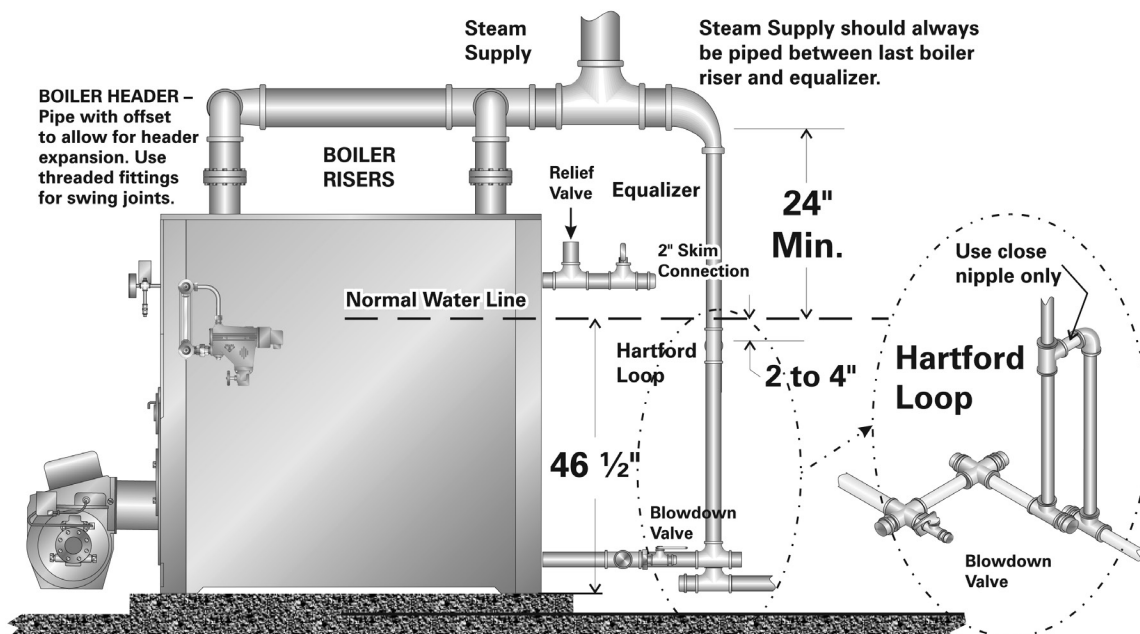

Figure 3.1: Supply and Return Connections, Skim Piping, Hartford Loop
3. Size the Header per Table 3.1. Pipe the header at least 24 inches above the normal boiler water line. See Figure 3.1. This is required to prevent water from carrying over into the header and then to the system.
1. The use of a Hartford loop is recommended in all parallel flow installations. See Figure 3.1. The loop provides additional reliability for the system.
- Pipe the Hartford loop tee so the inside top of the close nipple is 2 to 4 inches below the normal boiler water line. See Figure 3.1.